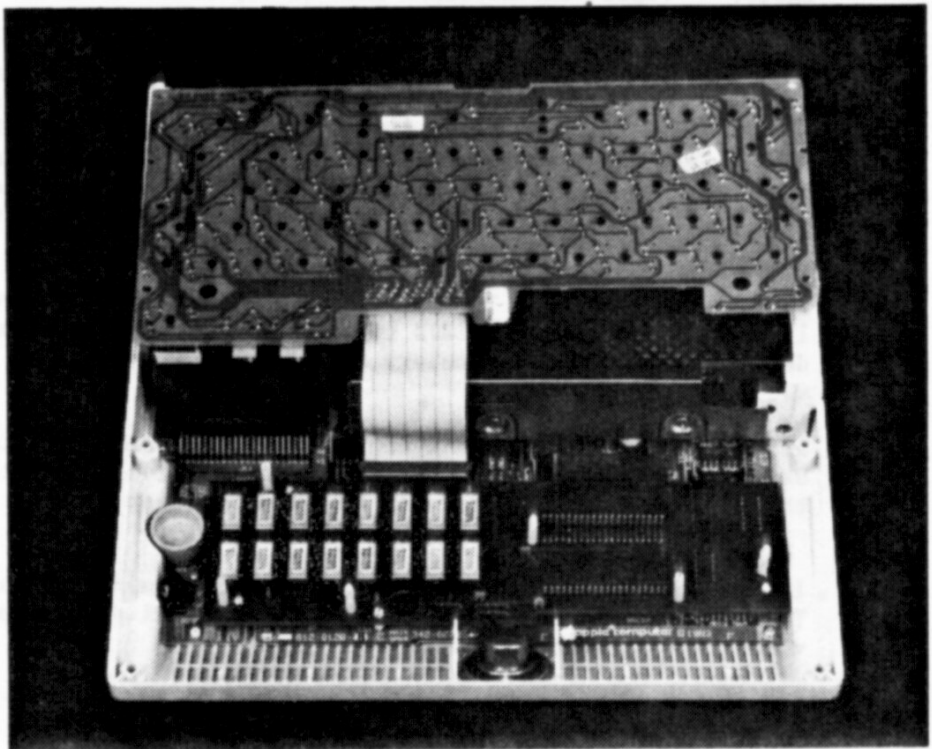

FIGURE 2.14
2. Reinsert the speaker jack. Place it through the round hole in the MultiRam C Card and push it over the two exposed pins. The //c should now look like Figure 2.14.